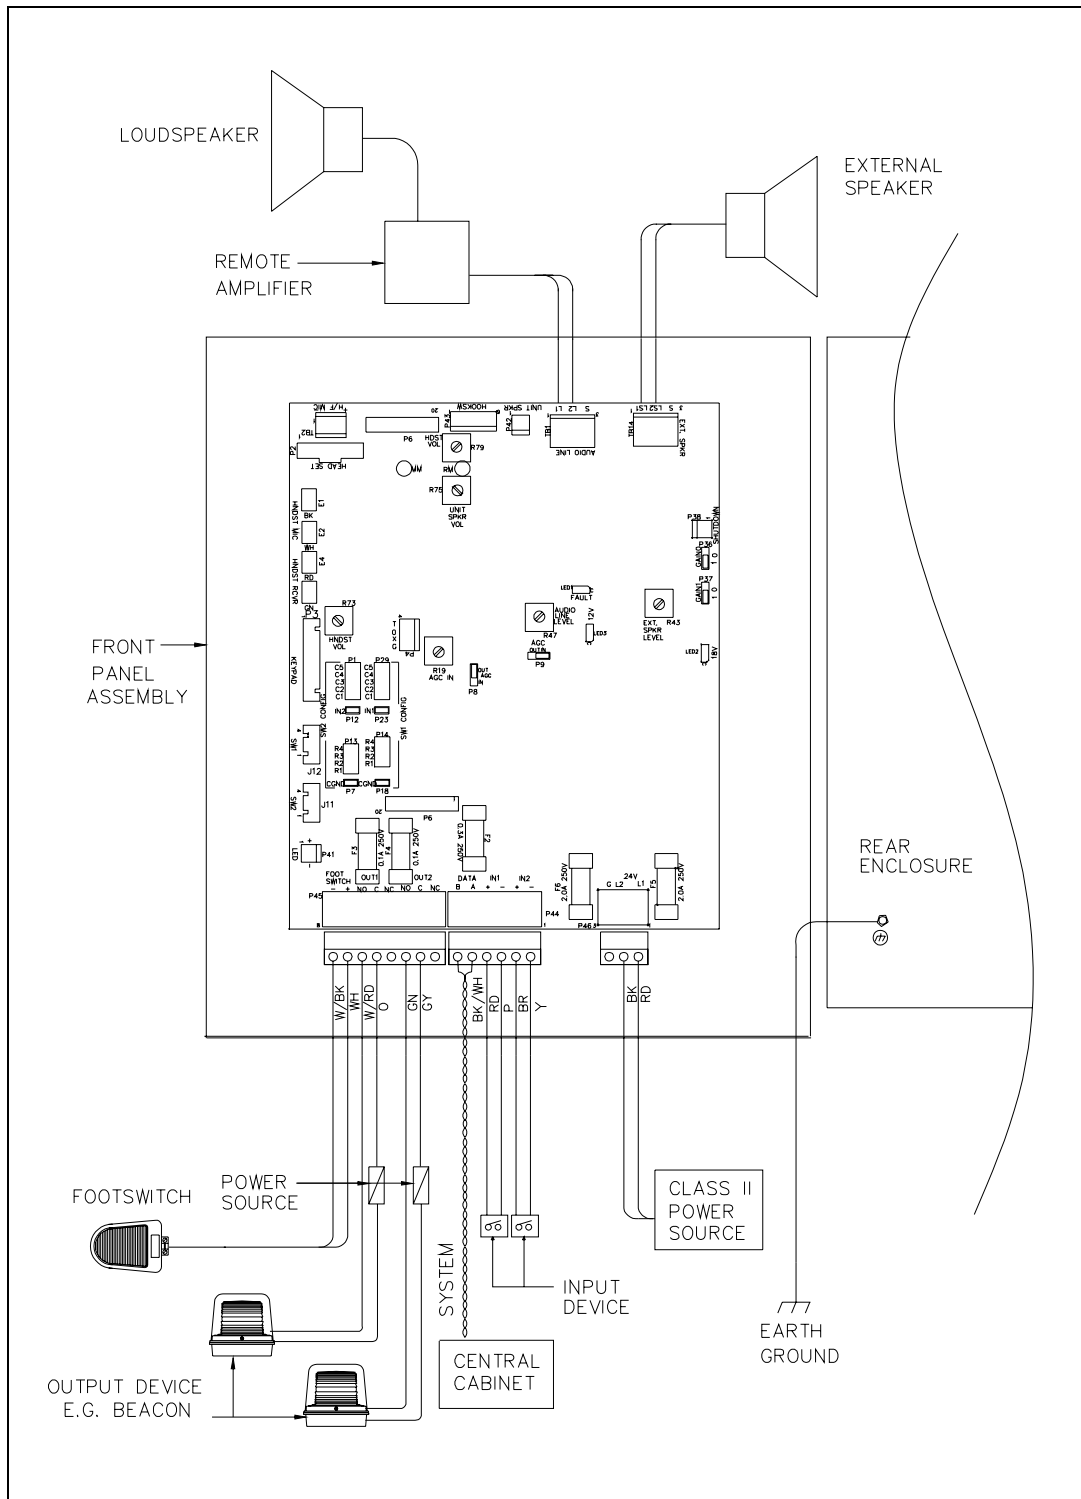

Figure 11. Typical Station Installation
3. Install all connections as indicated below. Refer to Figure 11 for wiring details. Refer to **Table 1** and **Table 2** on page 11 for the recommended conductor sizes and lengths.